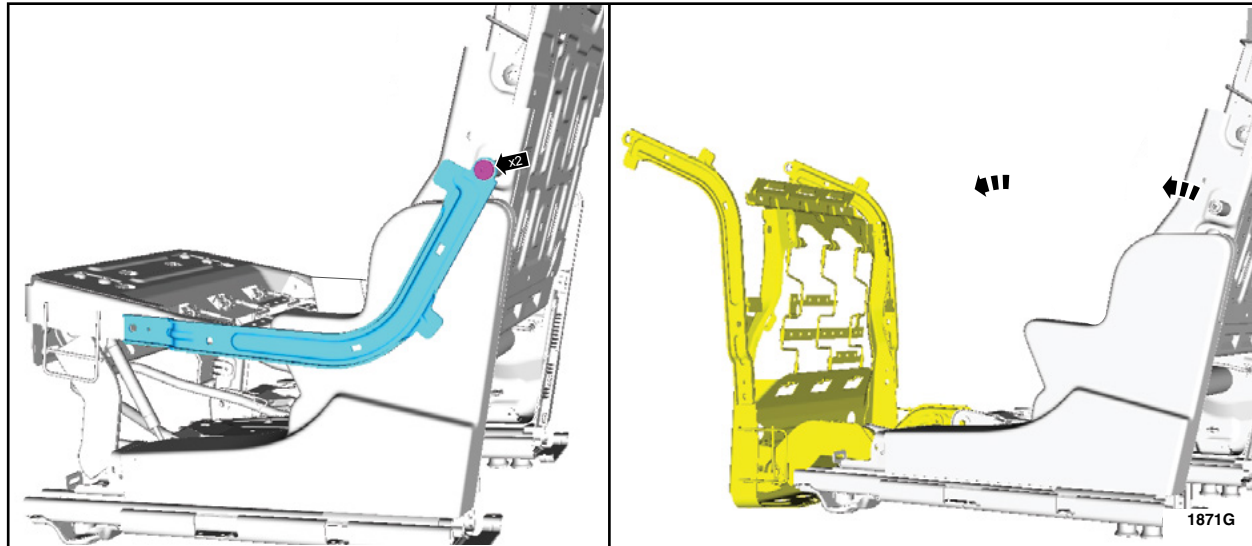

FIGURE 13
NOTE: The replacement frame will be shipped with the seat cushion pivot arms assembled to the seat backrest frame. It will be necessary to remove the replacement frames seat cushion pivot arm retainers before continuing with the installation of the seat components. See Figure 13.
16. On the both sides of the *new* seat frame, remove the seat cushion frame pivot arm retainers from the seat backrest frame and position the seat cushion frame forward. See Figure 13.